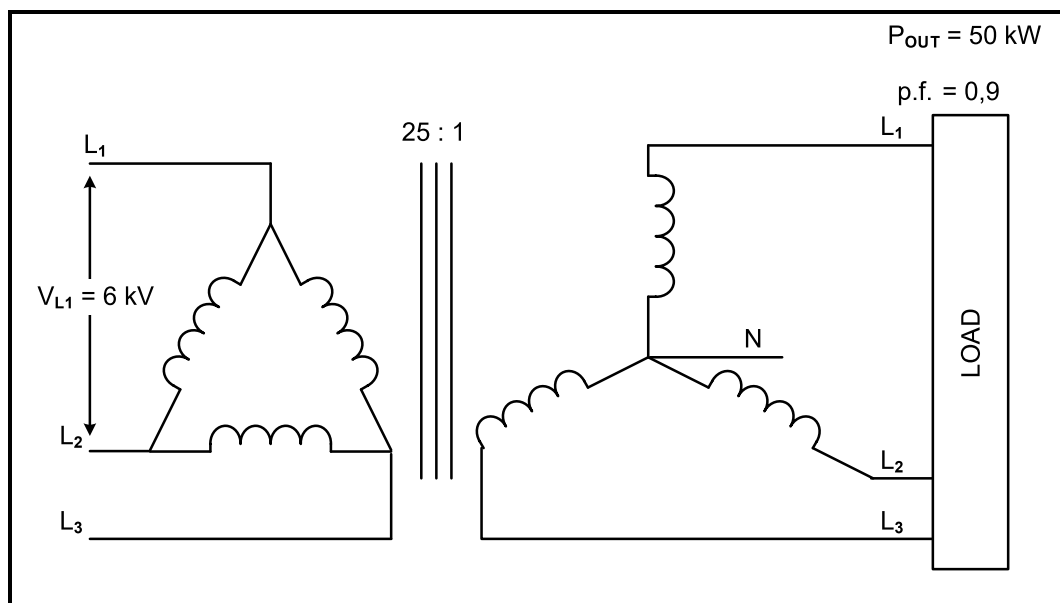

FIGURE 5.7: THREE-PHASE DELTA-STAR TRANSFORMER
5.7 FIGURE 5.7 below shows a three-phase delta-star transformer.
Use the data in FIGURE 5.7 to calculate the following: